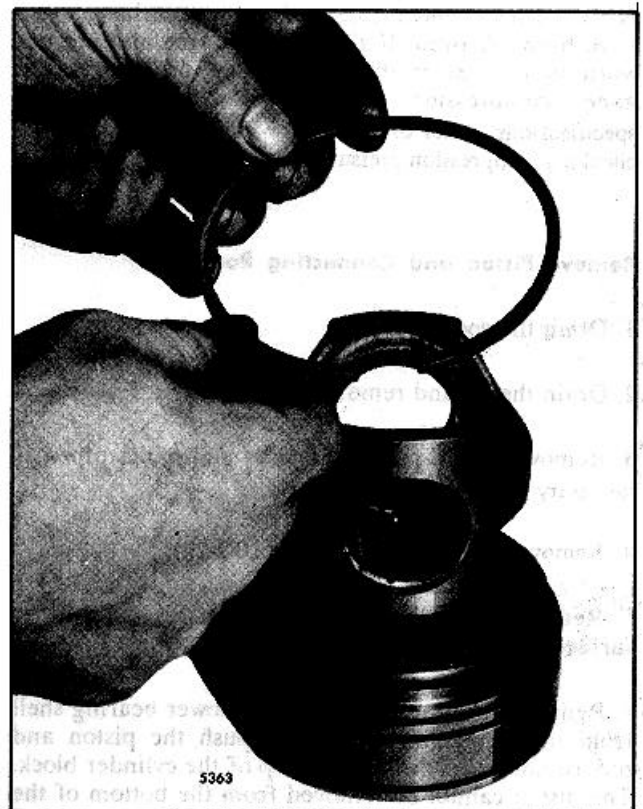

Fig. 6. Installing Seal Ring
2. Lubricate the metal seal ring (Fig. 6) with engine oil and install it with *the chamfer or counterbore directed toward the bottom of the piston.*